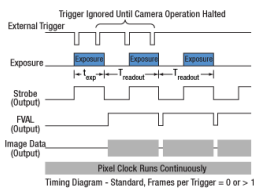

Figure 1: Streaming overlapped exposure mode.
Our scientific cameras have three externally triggered operating modes: streaming overlapped exposure, asynchronous triggered acquisition, and bulb exposure driven by an externally generated trigger pulse. The trigger modes operate independently of the readout (e.g., 20 or 40 MHz; binning) settings as well as gain and offset. Figures 1 through 3 show the timing diagrams for these trigger modes, assuming an active low external TTL trigger.
- **"Frames per Trigger" (Blue Highlight) Set to Zero or >1**: The camera will operate in streaming overlapped exposure mode (Figure 1).